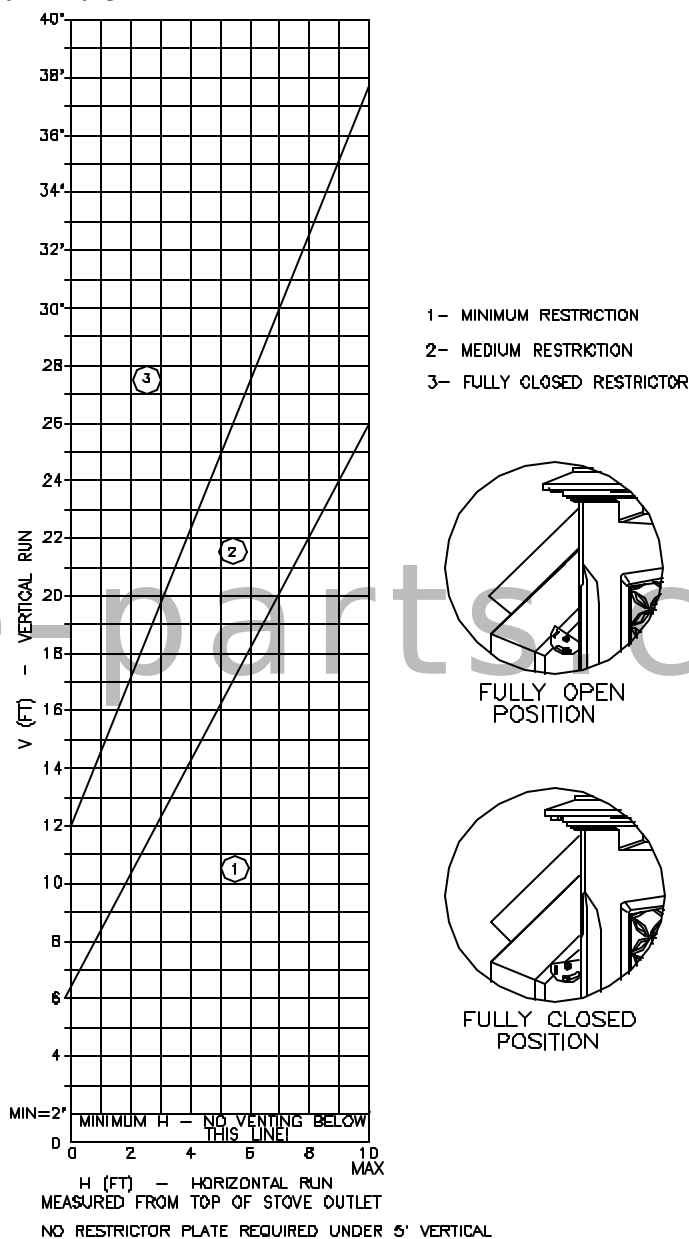

Figure 8
To adjust your restrictor for maximum flame appearance, loosen the Phillips head screw and spin the locator, found on the rear left side of the stove. (Refer to figure 8)
- The termination must fall within the area outlined in Figure 8 and the Chart in Figure 9.
- The termination must fall within the area outlined by the shaded area shown in Figure 8.